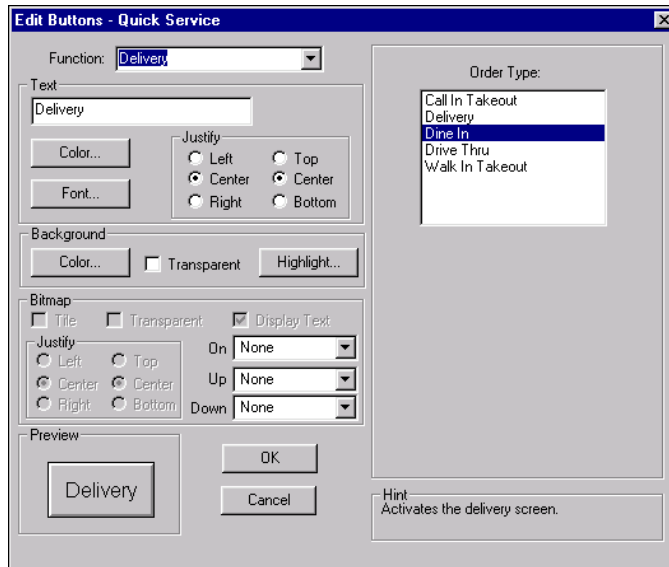

Figure 5-83 Delivery Button Function
1. Select **Delivery** from the **Function** drop-down list. An additional option displays, as shown in Figure 5-83:
1. Select **Display Order Total** from the **Function** drop-down list. An additional option displays, as shown in Figure 5-83: